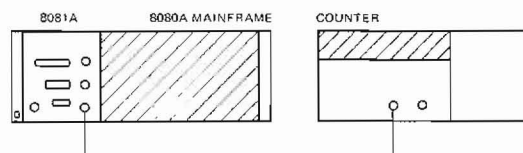

Figure 4-1. Repetition Rate Test Setup
1. Set up the equipment as shown in figure 4-1 and set the controls as follows: